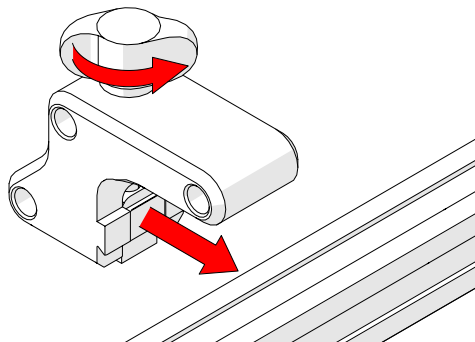

Fig. 44 - Chain mount
1. Loosen the double chain mount's dovetail jaw using the black wing knob (Fig. 44).